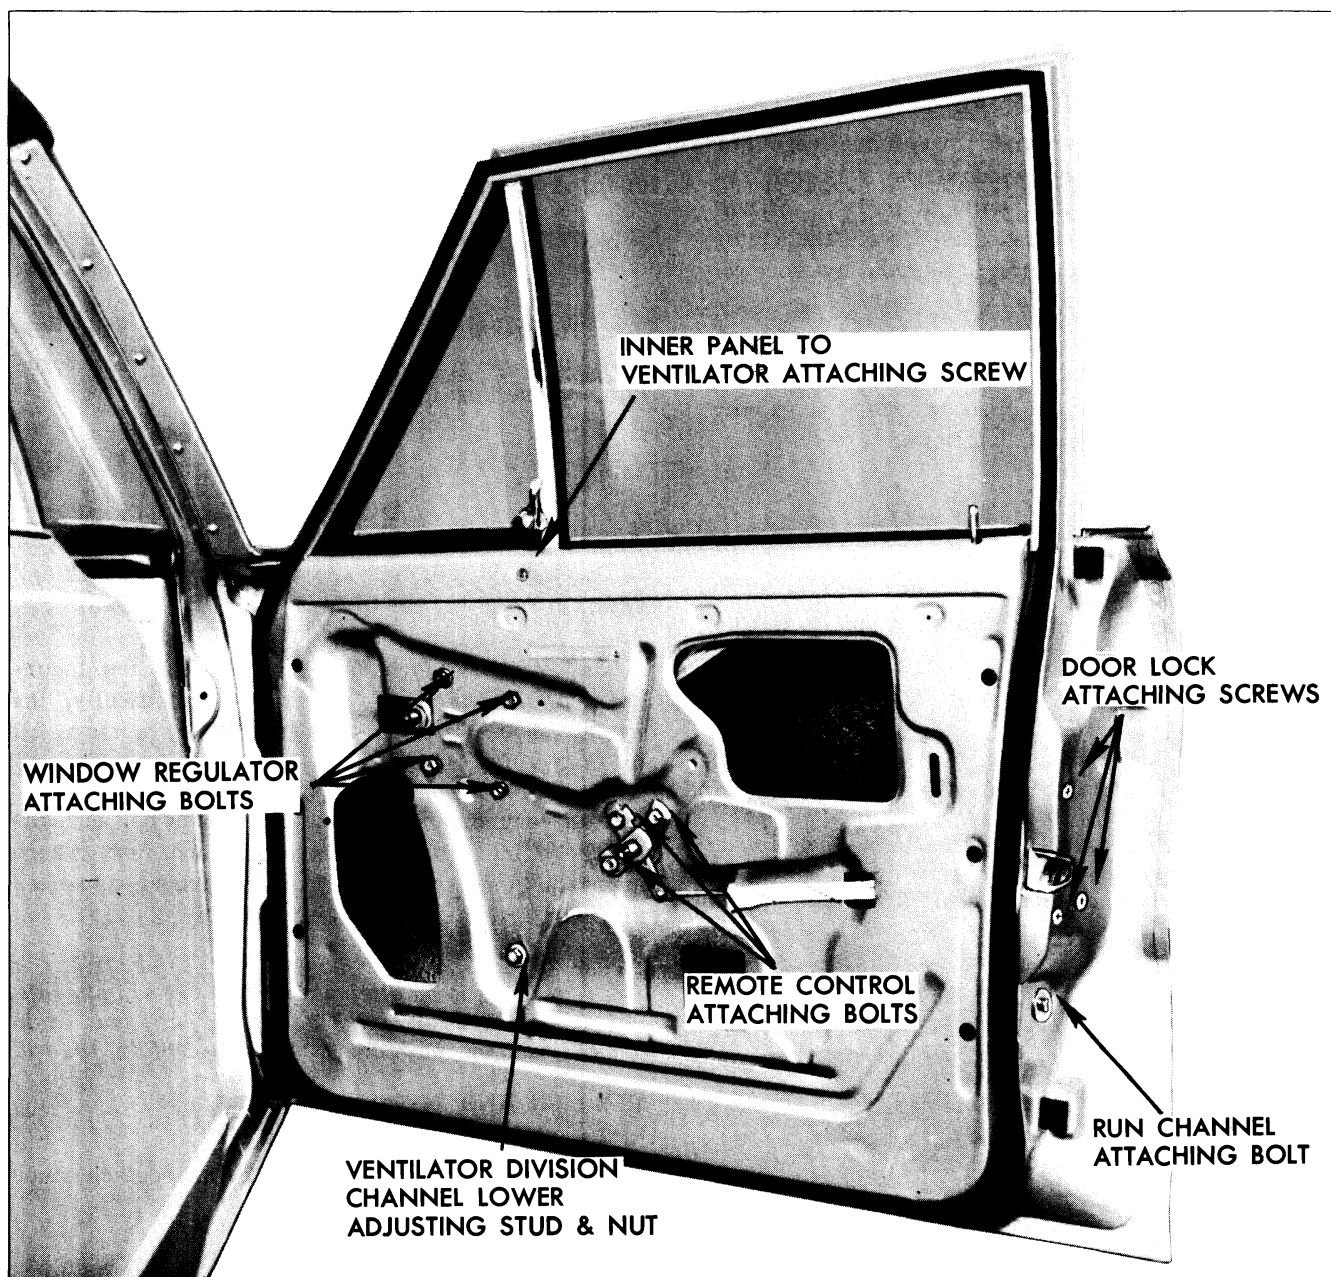

Fig. 12-29 Door Hardware
4. Remove remote control assembly and connecting rod (Fig. 12-29).
5. Remove regulator attaching bolts and work regulator rearward to disengage lift arm from lower sash channel cam and remove regulator (Fig. 12-29).
4. Remove lock attaching screws and remove lock assembly through inner panel access hole (Fig. 12-29).